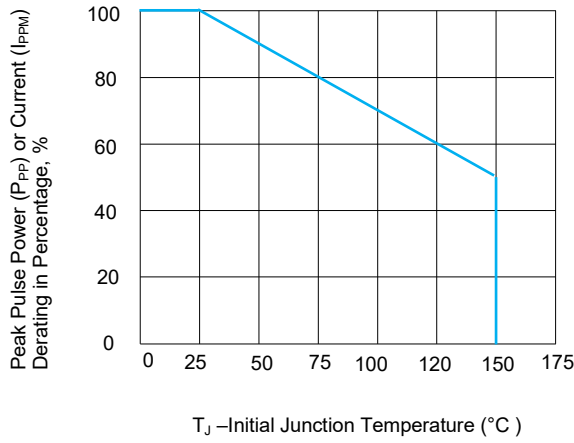
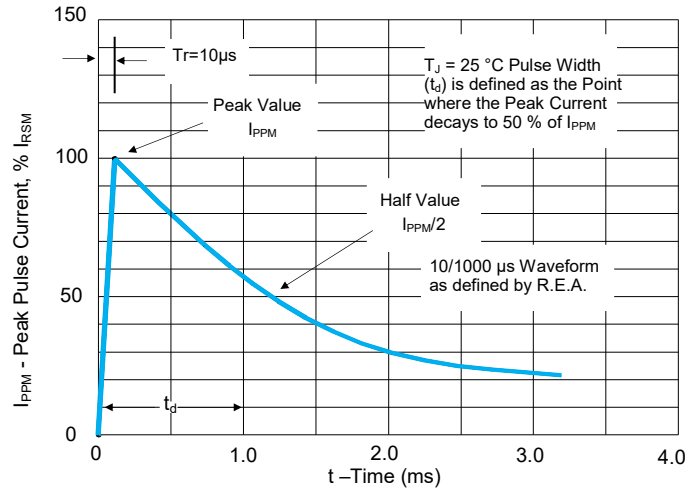

FIGURE 3 Peak Pulse Power Derating Curve
FIGURE 4 Pulse Waveform
1. Non-repetitive current pulse, per Fig. 4 and derated above $T_J(\text{initial})=25\text{ °C}$ per Fig. 3.